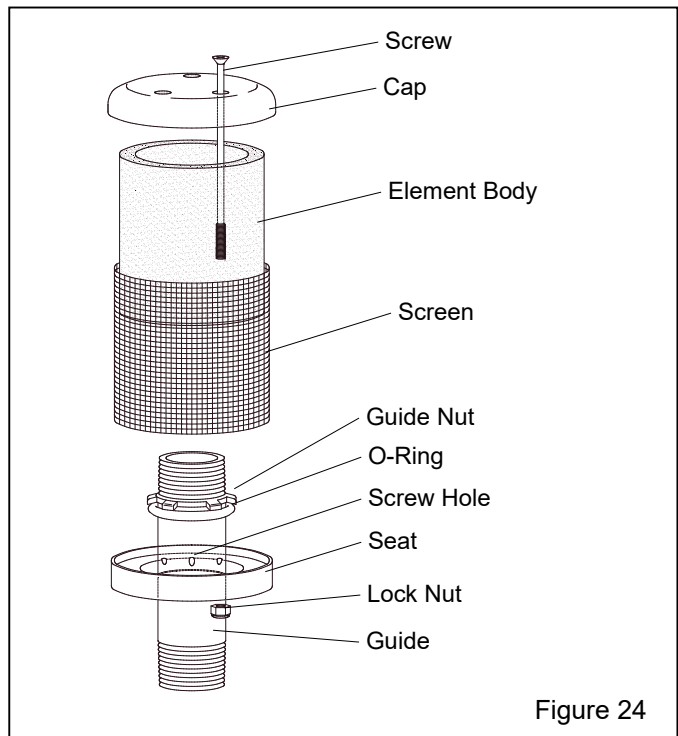

Figure 24
6.9 Exhaust Muffler – Figure 24
6.9.7 Reassemble, taking care to correctly insert the screws in the seat plate. The screw holes are the three closest to the center, as shown in Figure 24.